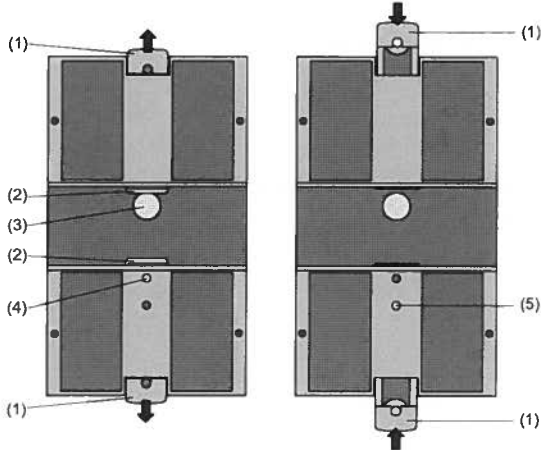

Fig. 6. Rear of device.
While pressing the latch (4) in the base of the device (Fig. 6, left) pull out the transducer securing brackets (1). To return the brackets to their original positions, the latch (5) in the base of the device has to be depressed before applying pressure to the securing brackets (1) (see Fig. 6, right).